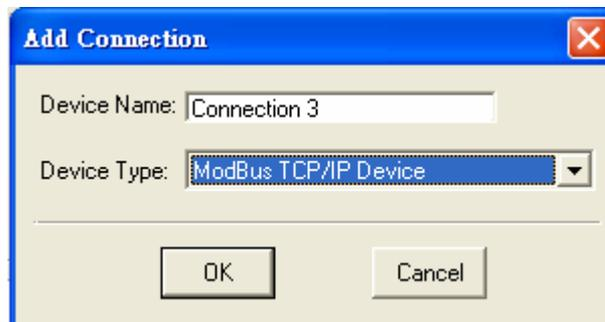

Figure 234. Add the third Ethernet-enabled PLC
7. Next, to add an Ethernet-enabled PLC, click [Add] to add a **third** PLC, for example, "ModBus TCP/IP Device." See Figure 234.